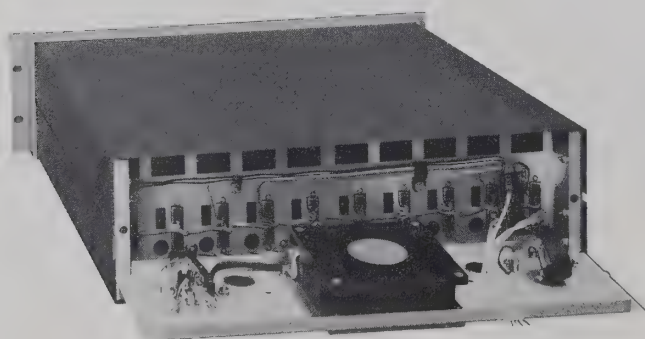

Figure 2-3. Inside Rear of Combining Case
1. Pull out on the two plastic quick-release fasteners to remove the rear panel, exposing the instrument mating receptacles as shown in Figure 2-3.
3. Bring the signal leads through the cable access holes in the rear panel as indicated in Figure 2-3.